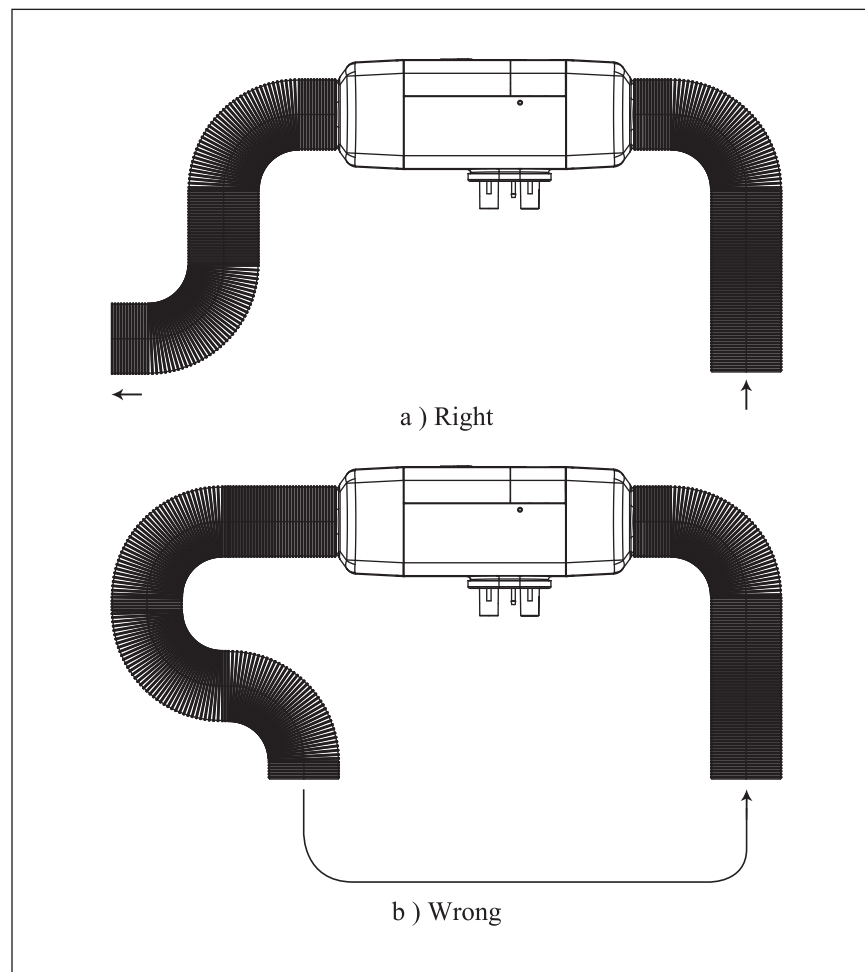

Fig. 17
4.3.5 - For heater working in internal circulation, measures shall be taken to avoid re-entering of the supplied hot air into the air inlet port (as shown in Fig. 17). The inlet air shall be drawn from the cold area of the compartment, such as under the seats or berths. If no air inlet pipe is attached in this mode, an air inlet hood with grids (W: Fig. 5-6; E: Fig. 6-4) must be installed at the air inlet port of the main equipment.